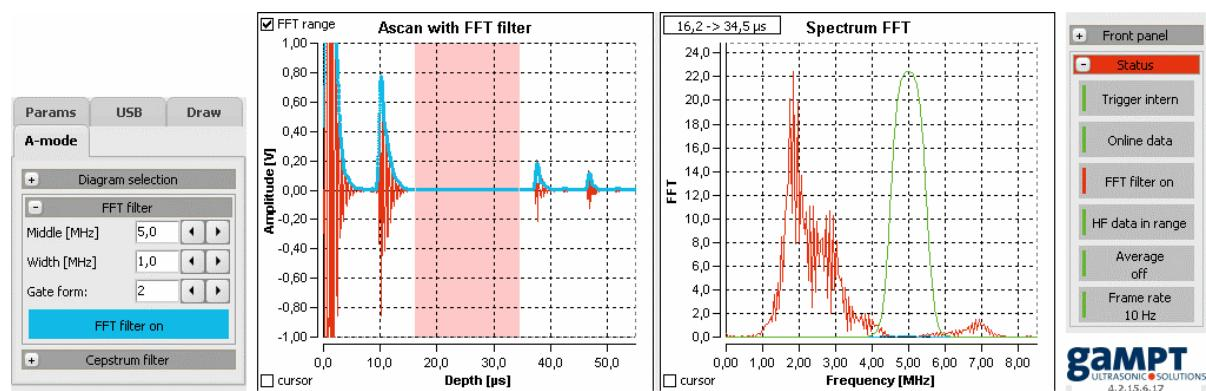

Fig. 47: Band-pass filter applied to a frequency spectrum that was only calculated for a part of the measurement signal.
When delimiting the data range of the ultrasonic signal for calculation of the frequency spectrum, the frequency filter is only applied to the data of this signal range (Fig. 47).
*The activated frequency filter is not only active in A-mode but also in B-, M-, and CT-mode of the program. It has priority over all other evaluations for application on the measurement data transmitted by the echoscope so that all other evaluation steps of the imaging methods (A, B, M, and CT) are carried out using filtered measurement data. Therefore, with unfavorable filter settings, the generated ultrasonic images may have more or less distinct artifacts or they simply cannot be evaluated (figure 47).*